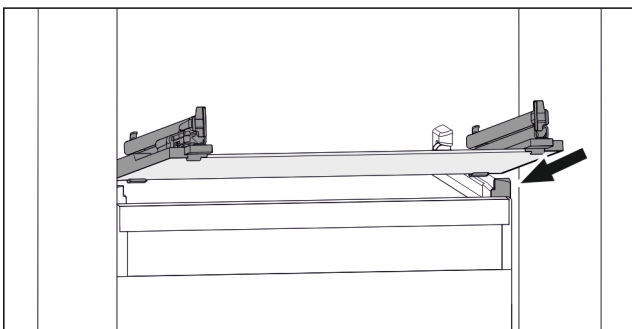

Fig. 63 Example illustration of glass shelf
- ▶ Position glass shelf at an angle behind the stoppers. (see Fig. 63)